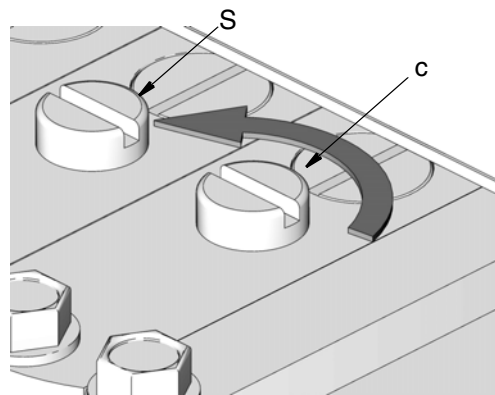

FIG. 2
- For initial start-up, prime the pump by removing screw from outlet metering circuit (S) (FIG. 2) and filling the small chamber with oil. Reattach the screw, making sure the spring lines up vertically.
- Adjust the pump for maximum delivery by turning the feed regulator (C) counter-clockwise as indicated by the directional arrow (FIG. 2).